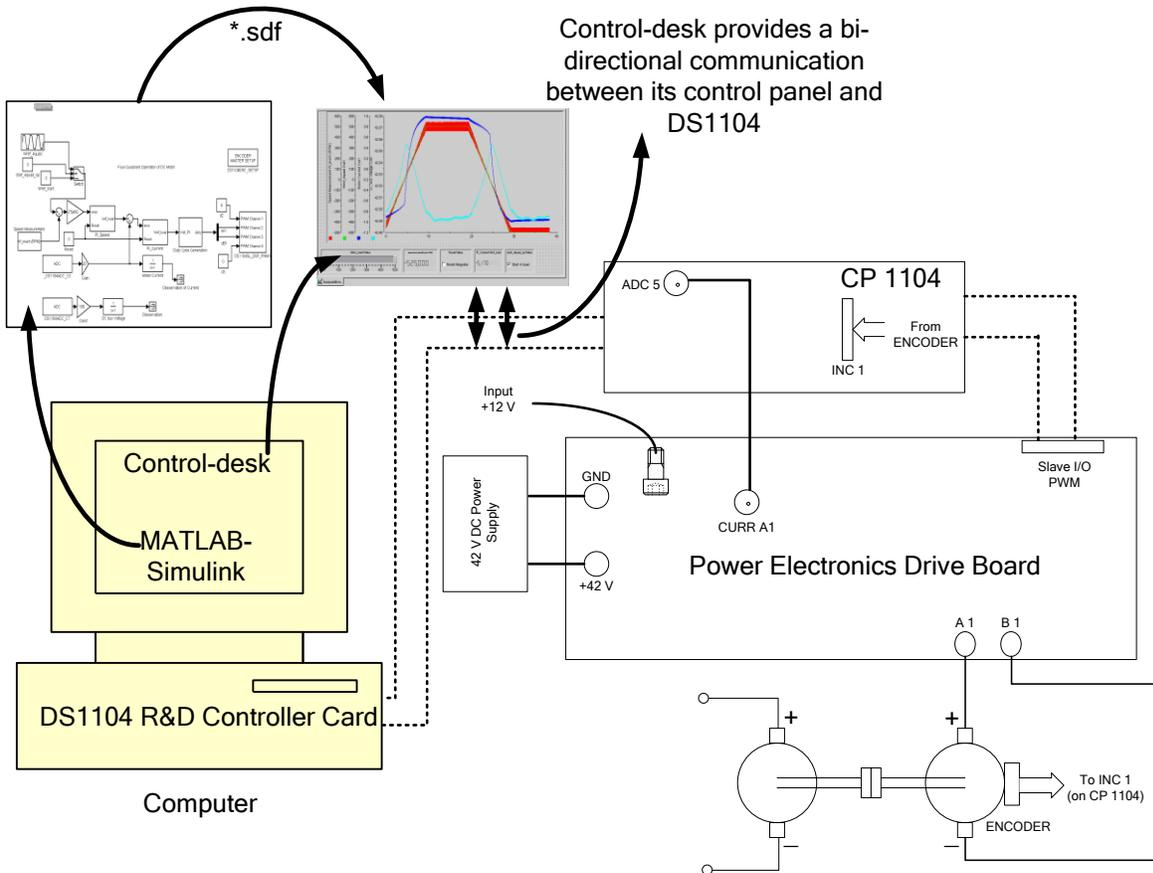
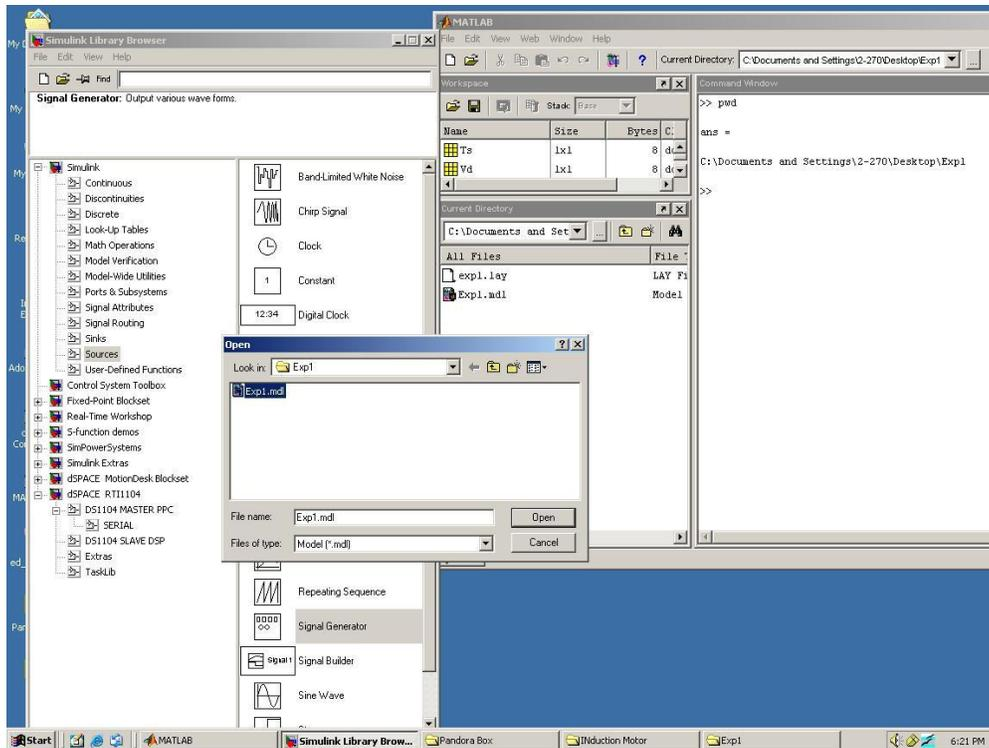

Figure 1.3: Demonstration of DC motor speed-control
Figure 1.4: Opening the Simulink file Exp1.mdl, changing the path of current working directory
- *MATLAB Simulink and Control-desk (Programming DS1104 and control in real-time):* Simulink is a software program with which one can do model-based design such as designing a control system for a DC motor speed-control. The I/O ports of CP 1104 are accessible from inside the Simulink library browser. Creating a program in Simulink and the procedure to use the I/O port of CP 1104 will be detailed in future experiments. At this stage, let us assume that we have created a **control-system** inside the Simulink that can control the speed of a DC motor. When you build the Simulink **control-system** (pressing CTRL+B) by using real-time option, it implements the whole system inside the DSP of DS1104 board, i.e. the **control-system** that was earlier in software (Simulink) gets converted into a real-time system on hardware (DS1104). Simulink generates a *.sdf file when you build (CTRL+B) the **control-system**. This file gives access to the variables of **control-system** (like reference speed, gain, tuning the controller etc) to a separate software called Control-desk. In this software a control panel (see Fig 1.3) can be created that can change the variables of **control-system** in real time to communicate with DS1104 and hence change the reference quantities such as the speed or torque of the motor.
The system for the speed-control of a DC motor is shown in Fig 1.3. Note that the currA1 (i.e. phase-current of DC motor) and encoder signal (speed of DC motor) is fed back to the DS1104 board via CP 1104. The requirement of feeding back phase-current and speed of the motor will be studied in experiment-4. For now, assume that these two quantities are required to control the speed of DC motor. Perform the following steps to run the experiment. The communication between the four components (explained in section 1.2) is detailed in each step, wherever necessary.
- Connect the circuit as shown in Fig 1.3. You are given with files **Exp1.mdl** (Simulink control-system file) and **Exp1.lay** (control panel in Control-desk). Create a new folder on desktop as **Exp1** and bring these two files into that folder. Open MATLAB Simulink and set the folder **Exp1** as the path of the current working directory. Verify in the command window for the correct path (Fig 1.4). Open the Simulink file **Exp1.mdl** as shown in Fig 1.4.